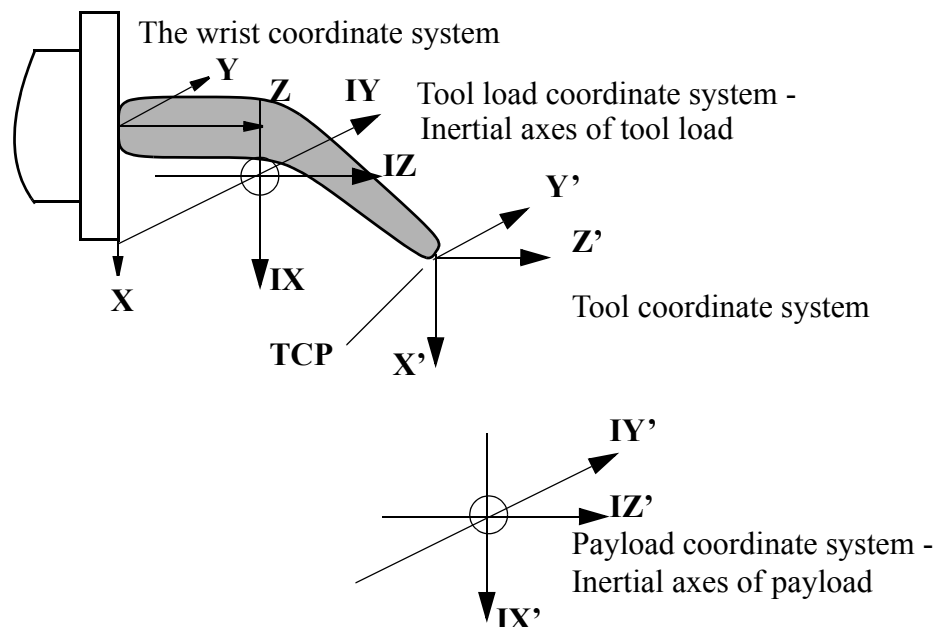

Figure 11 Restriction on the orientation of tool load and payload coordinate system.
### ***Tool load (Ref. to Figure 11)***
**The payload in Figure 11 is described using the following values:**